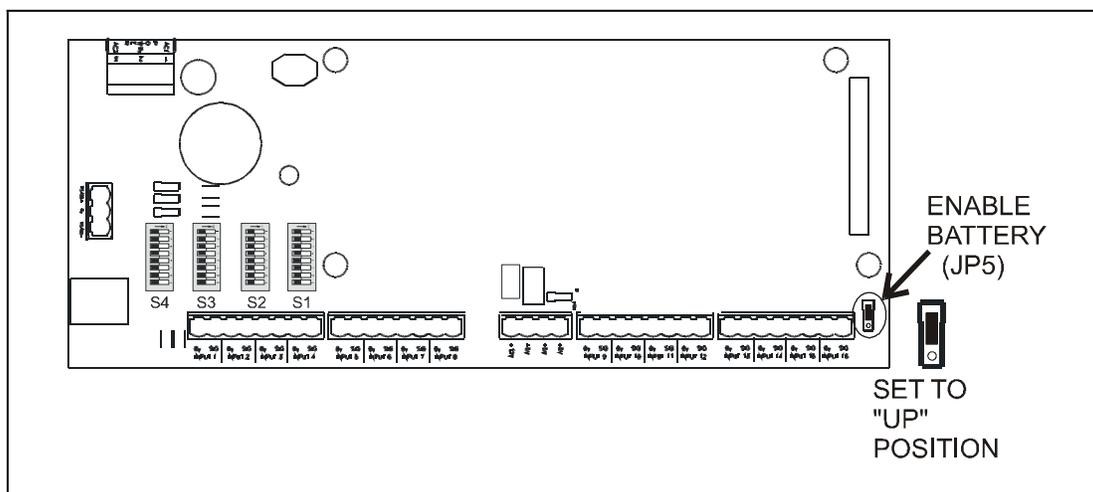

Figure 2-7 - Enable Battery Jumper on MultiFlex Board
Battery-backed memory is enabled by the ENABLE BATTERY jumper (JP5) located at the bottom right corner of the input board layer (**Figure 2-7**). This jumper is shipped from Copeland in the DISABLE position. The jumper should be set to the ENABLE position (UP) before installation. To preserve battery life, when storing the MultiFlex RCB, the jumper should be set to the DISABLE position.